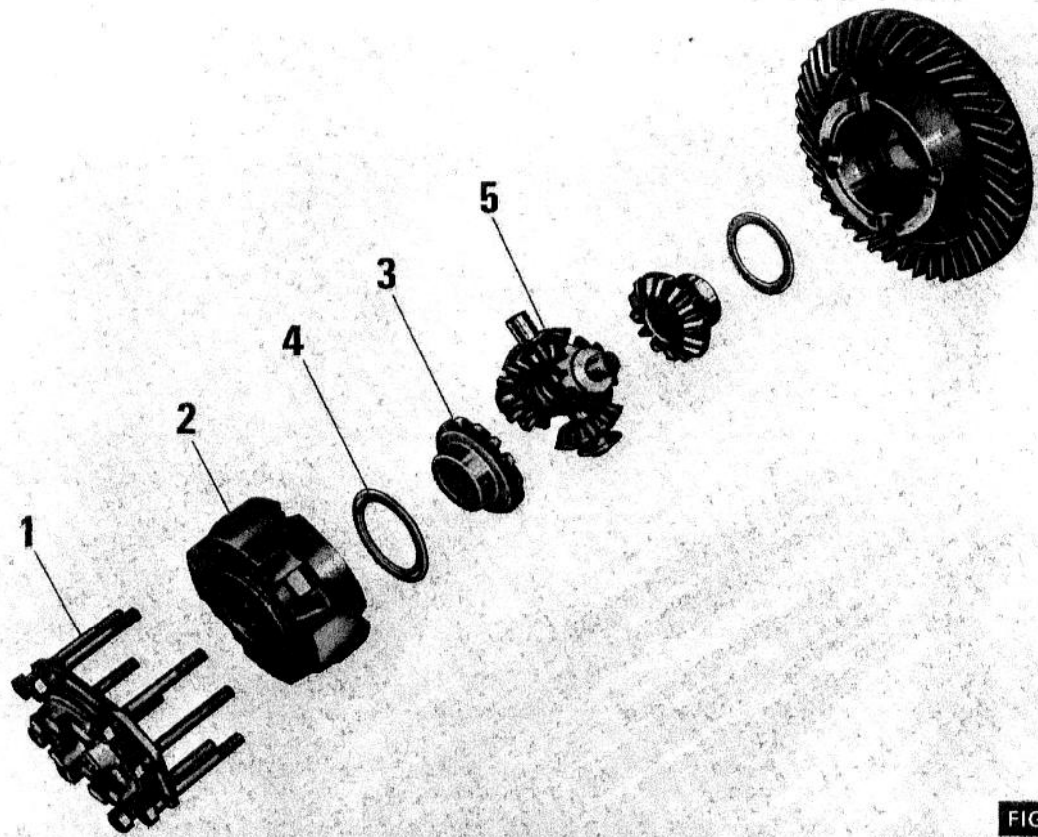

FIG. 28
3. (Fig. 28) Lift off the differential lock coupler cap (1) and casing (2).
4. Lift out the differential gear (3), thrust washer (4), cross joint and pinions assembly (5) with thrust washers and finally remove the remaining differential gear and thrust washer.